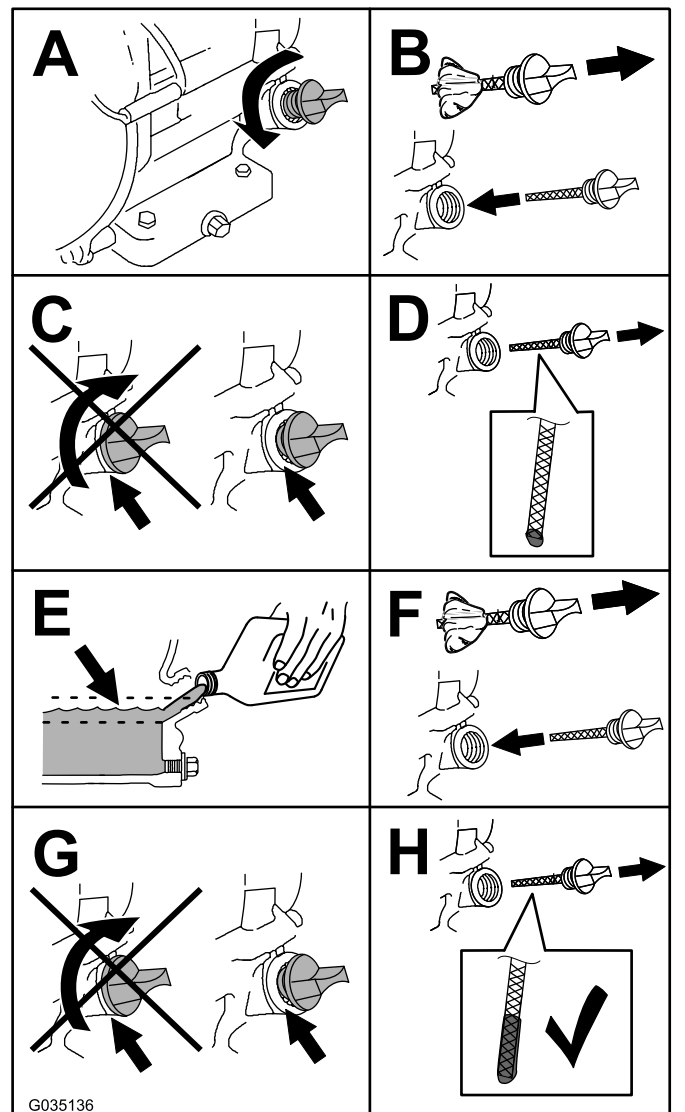

Figure 24
5. Check the oil level as shown in Figure 24.